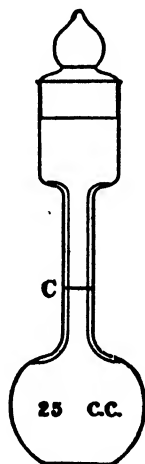

FIG. 9.
c. If the substance you have to investigate is a **solid insoluble in water**, such as chalk (calcium carbonate [**C 573**; **I 725**], *not* black-board crayon, which is mainly calcium sulphate [**C 577**; **I 731**]), you use a pycnometer of a different type, shown in Fig. 9. As before, find the weight of this (a) when empty, and (b) when filled with water to the mark C. Next powder up some of the solid very finely in a mortar, introduce a few c.c. of the powder into the empty and